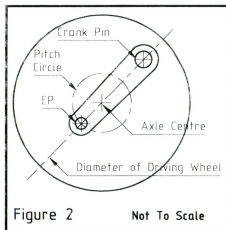
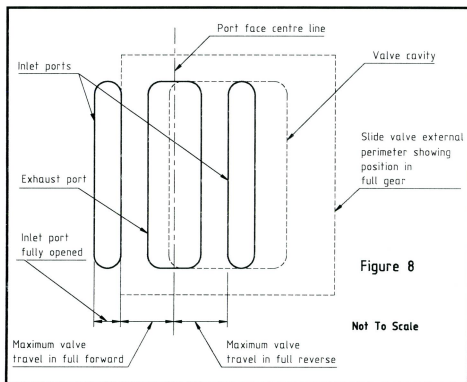

Figure 2
Figure 8
senting the diameter of the wheel. (Figure 2). A vertical centre line drawn through the axle and the reverse shaft is at 90 degrees to the exhaust port face and valve spindle.
The process is almost identical to that of setting Walschaerts valve gear. Ensure the return crank (RC) is positioned exactly as previously described (Figure 2). Position the lever RSM parallel to the valve spindle (VS) and mark this position on the cab reversing quadrant to be used for future mid-gear selection. Lock the reverser in this position. With the valve chest removed, turn the entire motion and observe that the valve travels the same distance either side of the port face centre line (Figure 8). Use the inlet ports as a guide. If not equal, adjust the valve position on VS and repeat the process until equal travel is reached and lock the valve on the valve spindle. Next, adjust RS towards full forward. Again turn the entire motion and observe (or measure) that the valve travel in each direction is equal. Repeat the process by adjusting RL until the inlet ports are fully uncovered in each direction and mark this position on the reversing quadrant as being full forward. Repeat the entire process for full reverse. If there are differences in each direction of the valve